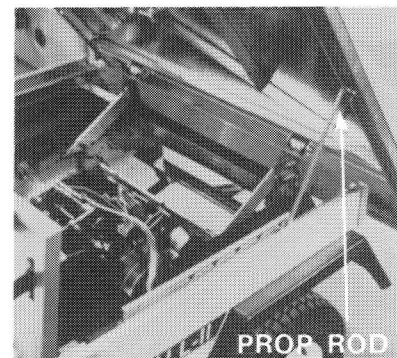

Figure 15
4. The Carryall-II is equipped with an automatically engaging bed prop rod (See Figure 15).